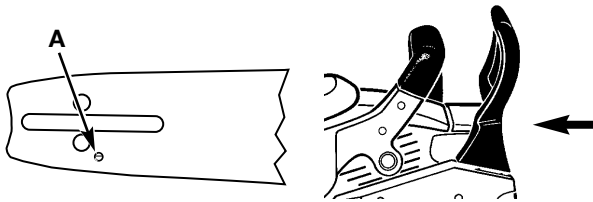

Fig. 21
CAUTION: To ensure the bar and chain receive oil, **ONLY USE THE ORIGINAL STYLE BAR** with the oil passage hole (A) as illustrated in Fig. 21.
1. Make sure the Chain Brake® lever is pulled back into the DISENGAGED position (Fig. 21). Remove bar retaining nuts with supplied multi-purpose tool.